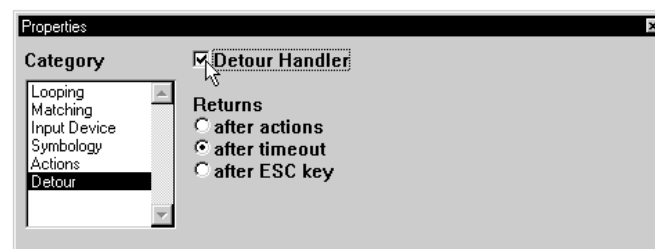

Figure 4-10 Properties Window - Detour Handler Selected
11. Click the Detour Handler selection box to make the selected Input Handler a Detour Handler (Figure 4-10).